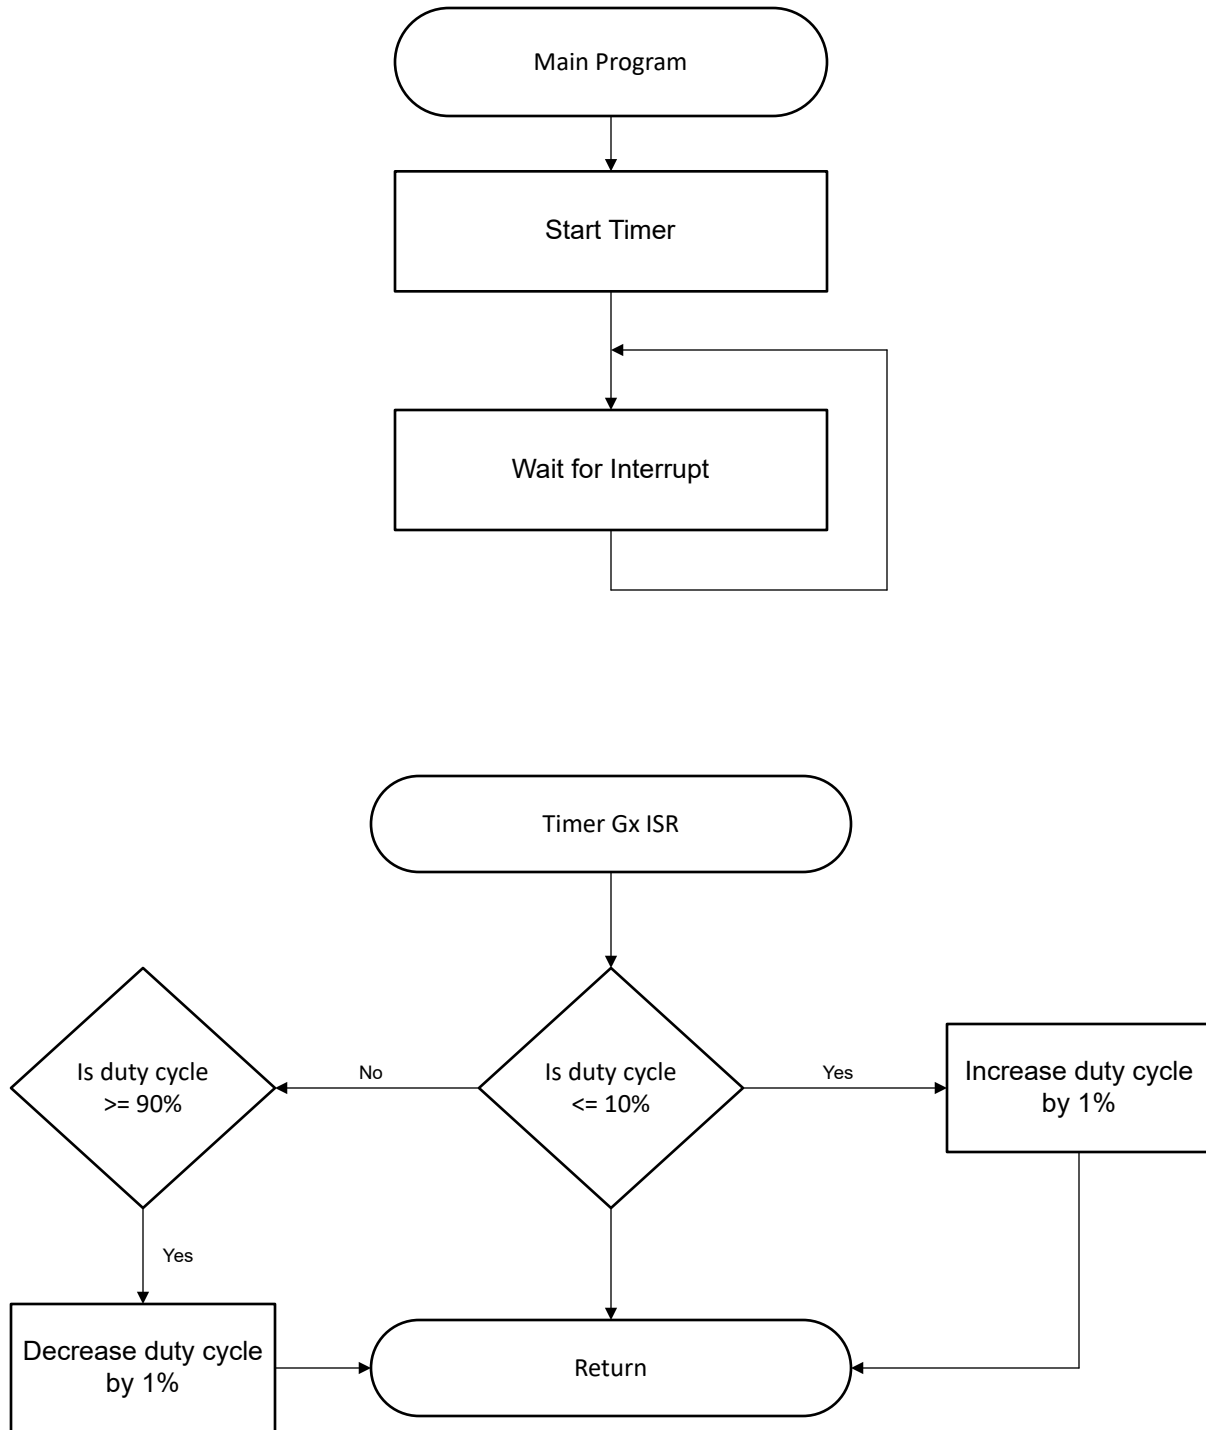

Figure 2. Application Software Flowchart
4. Write application code. The remaining piece of this application is to change the PWM duty cycle, which is accomplished in software. See Figure 2 for an overview of the application or browse the code directly.
Figure 2 shows the operations performed by application to change the duty cycle of the PWM output.